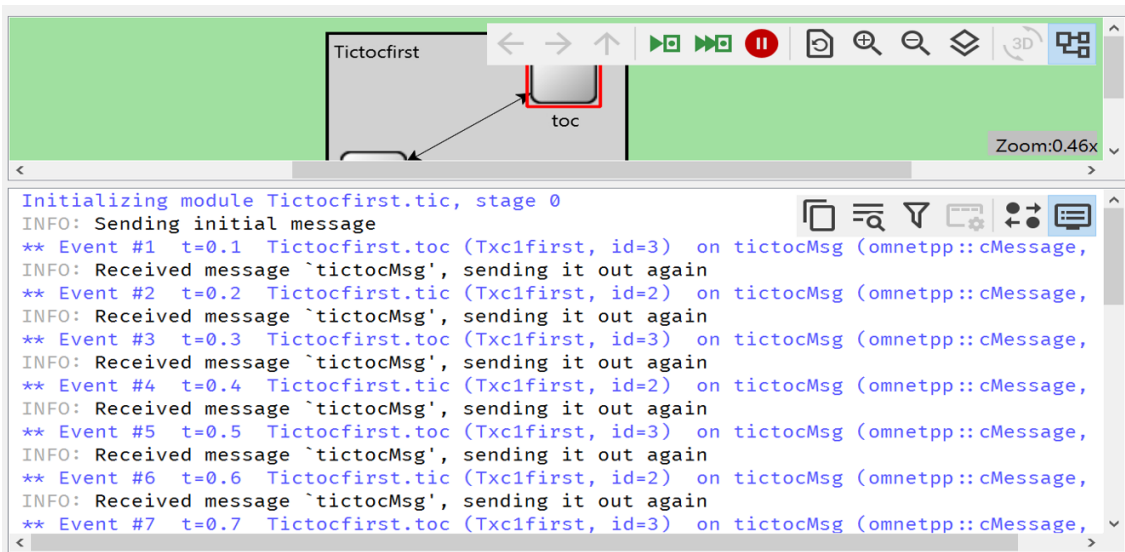

Figure 3.5: Simulation logs
- Observing simulation logs: When you run the simulation in the OMNeT++ runtime environment, the output similar to Figure 3.5 will appear in the log window. This is the simplest form of logging available in OMNET++.